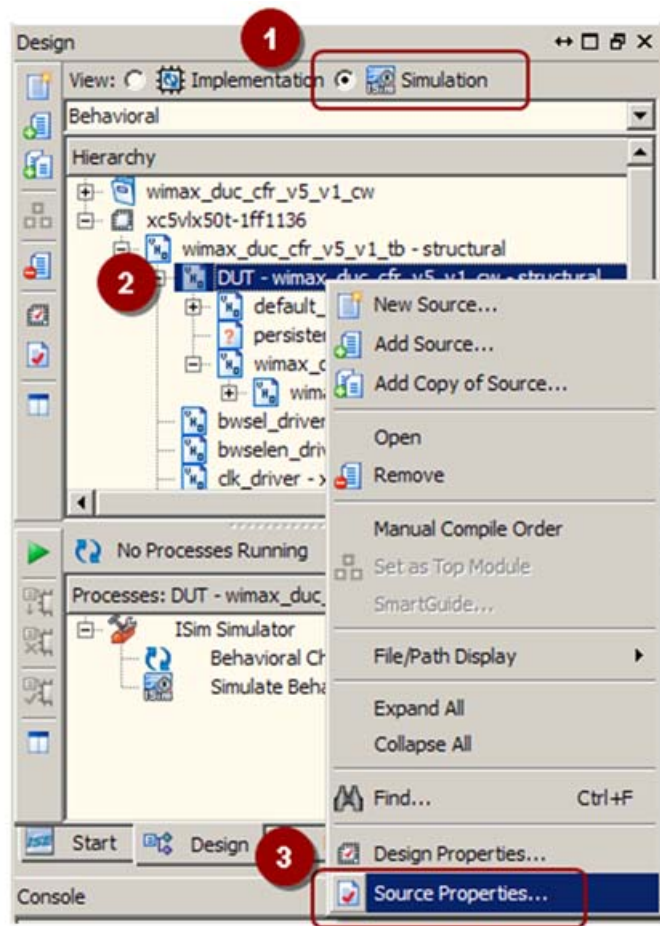
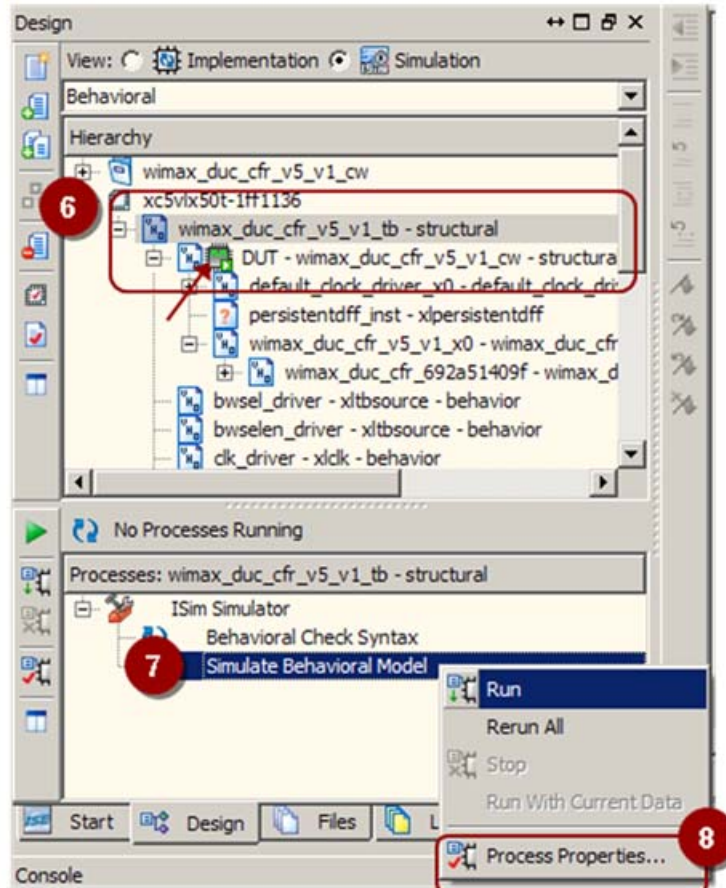

Figure 8-1: Steps 1, 2, and 3
Figure 8-3: Steps 6, 7, and 8
7. Open the **Process Properties** for the Simulate Behavior Model to specify any additional options for ISim before starting the compilation and simulation process. Figure 8-1 through Figure 8-3, page 86 display steps 1 through 8: